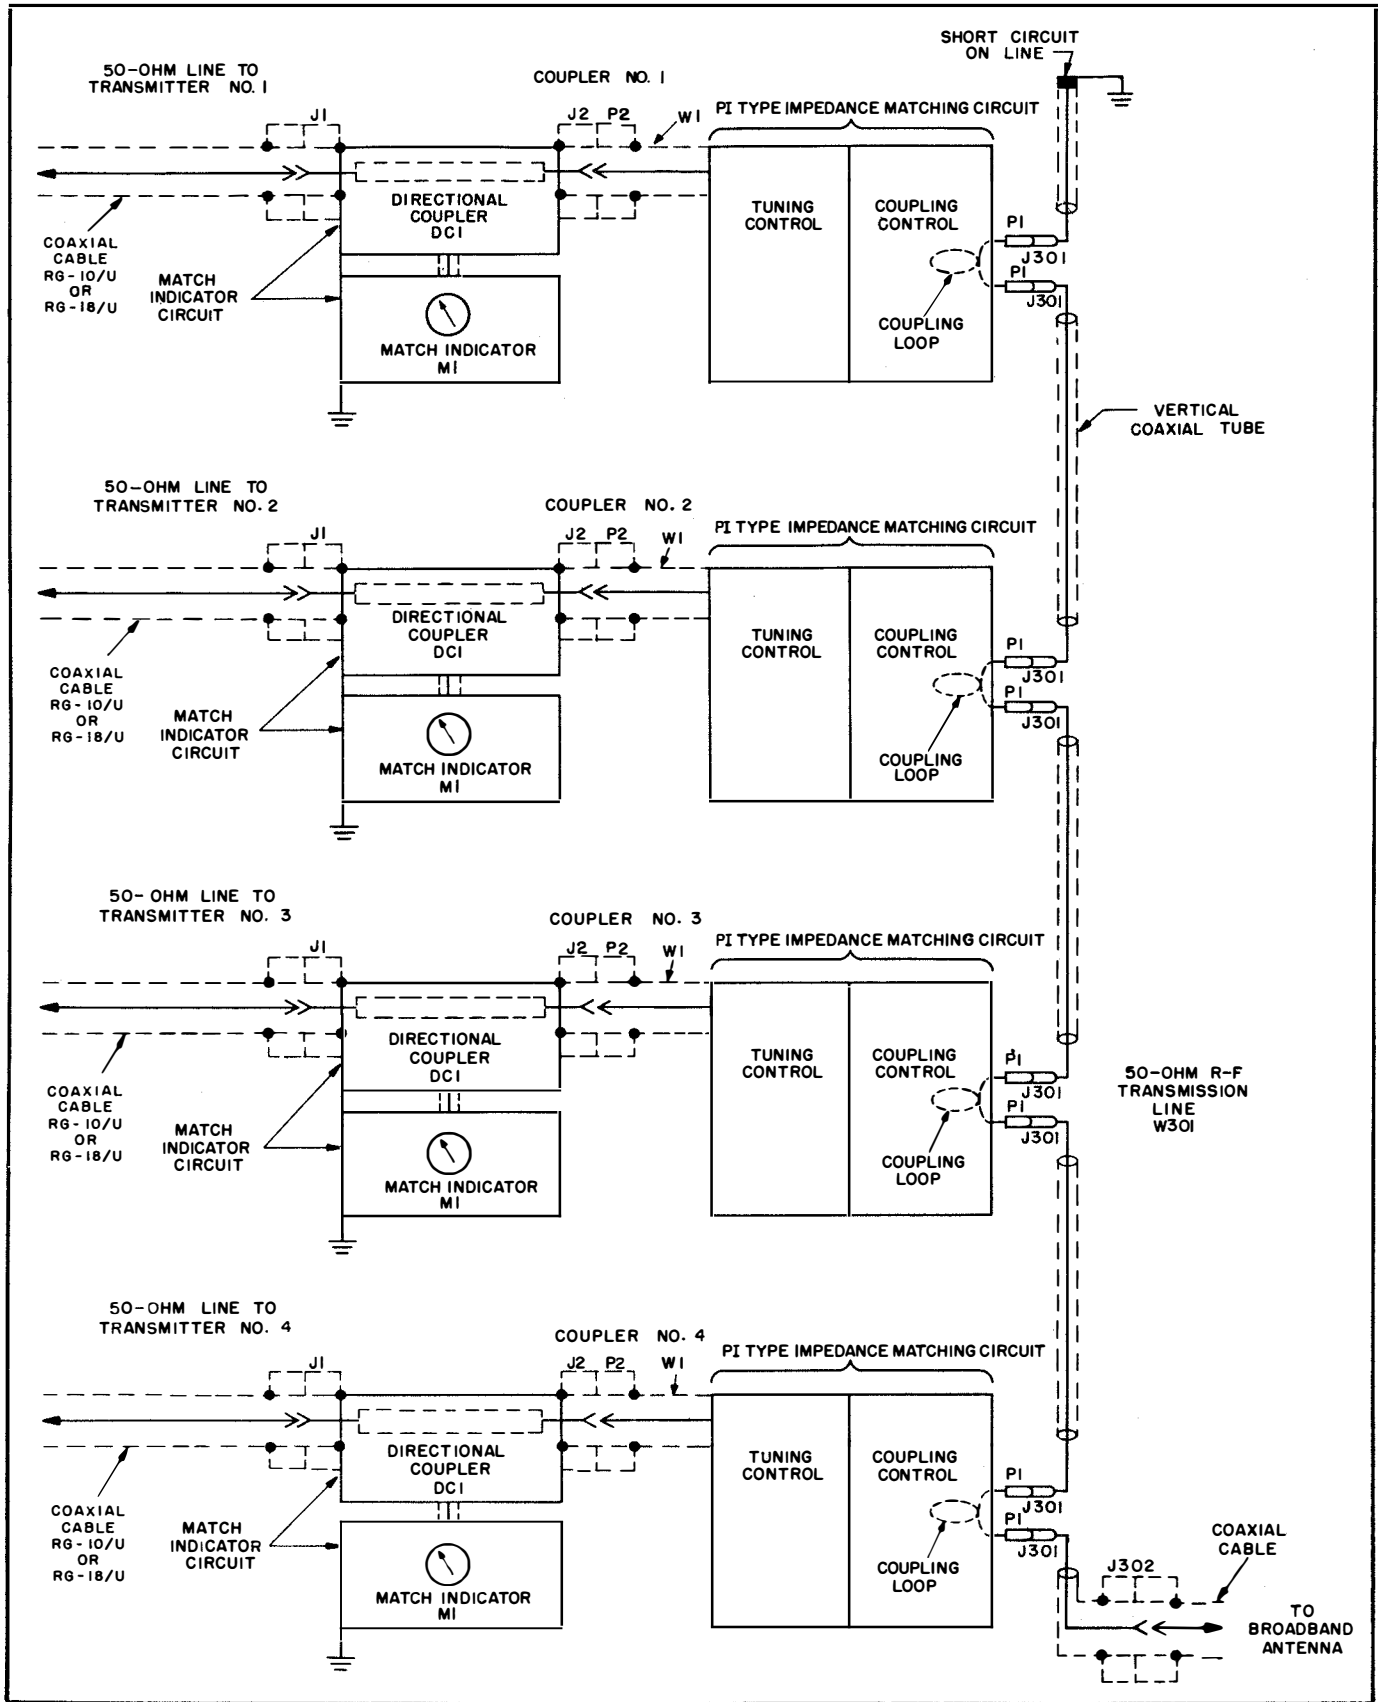

Figure 2-1. Coupler Group, Antenna AN/SRA-13, Functional Block Diagram
b. DESCRIPTION OF CIRCUITS.—Figure 2-1 is a functional diagram of Coupler Group, Antenna AN/SRA-13. Although the blower assembly and fuse panel are not shown, these units do not affect the function of the coupler group; they will be discussed.
(1) COUPLER NO. 1.—The four antenna couplers (Coupler, Antenna CU-419/SRA-13) are identical, therefore only COUPLER NO. 1 will be discussed in detail.